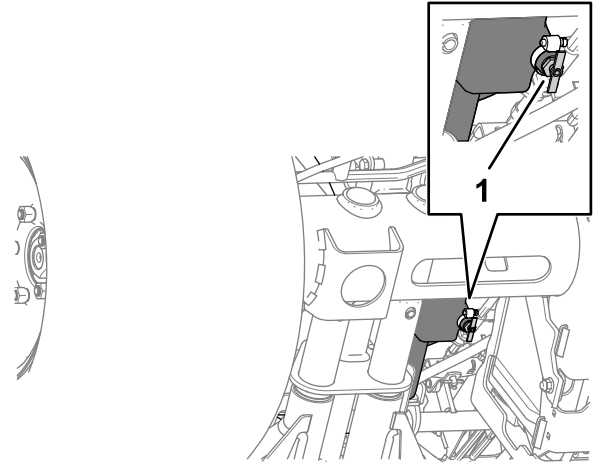

Figure 84
2. Align a drain pan under the fuel tank-drain valve (Figure 84).